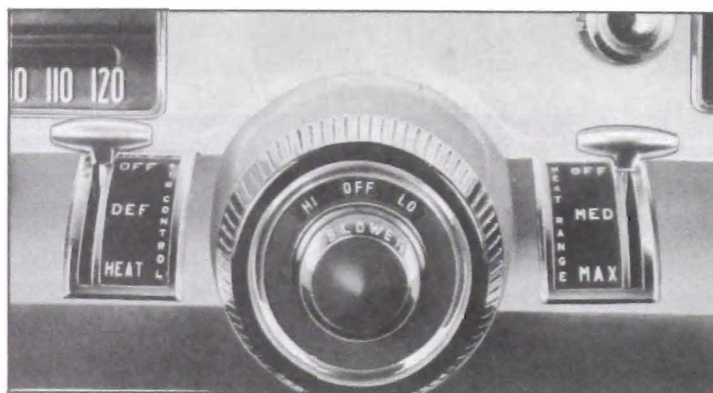
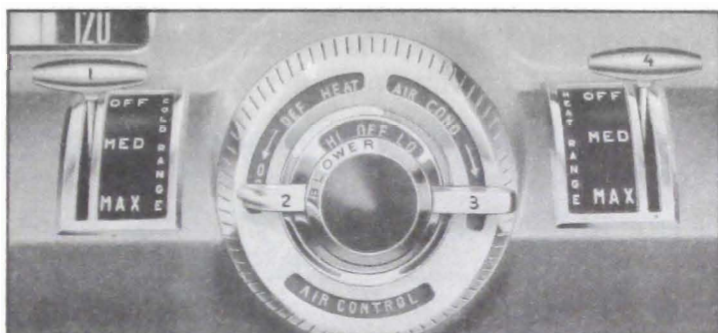

Figure 11-13—Heater and Defroster Vent Controls
Figure 11-22—Air Conditioner Control Panel
Figure 11-13 shows the control panel which is used with the heater and defroster installation. Figure 11-22 shows the control panel used with the air conditioner installation. Although the controls are positioned slightly different when an air conditioner is installed, the controls operate in the same manner as they do when only the heater and defroster are installed.
The heater and defroster air control is of the airplane type and the control lever is attached to fly valves in the inner heater and defroster core housing by means of a control wire. When the knob is pulled half-way down the defroster valve opens and allows air to flow into the defroster distribution air hose. Figure 11-22 shows the location of the heater and defroster control on an air conditioner equipped car.
When the heater and defroster air control, as shown in figure 11-13, is moved to the bottom position it opens the heater valve in the inner heater and defroster core housing and allows air to flow into the heater air distribution system. At the same time the defroster air valve is closed.
The blower speed is controlled by a rotary switch located in the center of the control panel. See figures 11-13 and 11-22. The switch has 3 positions, "Hi," "Off," and "Lo."
The heater temperature control lever, as shown in figures 11-13 and 11-22 regulates the temperature of the heater air entering the passenger compartment and is connected to the Ranco valve by a control wire. As the temperature control lever is moved from top to bottom the heater discharging air temperature is increased.
8. *Controls.* The left lever (1) shown in figure 11-22 is the cold range control lever.
3. *Control Adjustments.* The Heater and Air Conditioner Air Control (2 in fig. 11-22) is adjusted by positioning the control lever to the full "OFF" (counterclockwise) position. With control in this position: